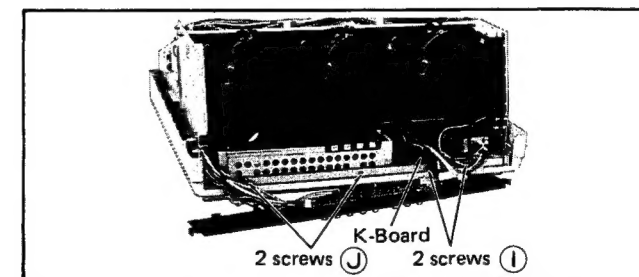

Fig. 10
- Remove 2 screws (I) in fig. 10.
- Remove 2 screws (J) in fig. 10.